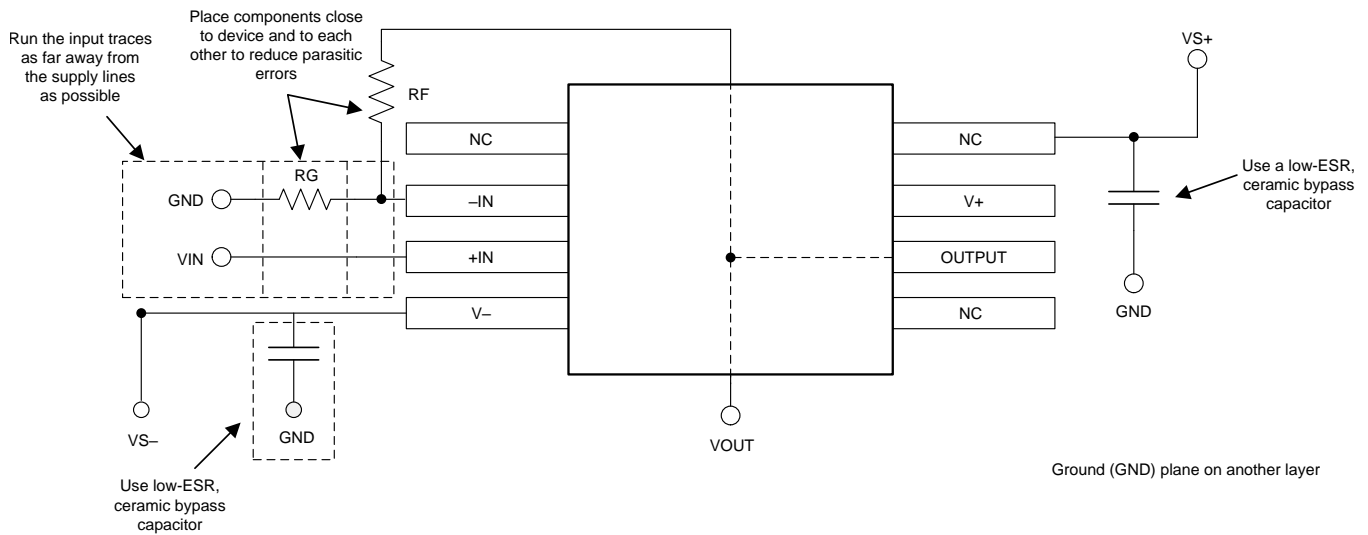

图 56. Operational Amplifier Board Layout for Noninverting Configuration
- Place the external components as close to the device as possible. As illustrated in 图 56, keeping RF and RG close to the inverting input minimizes parasitic capacitance.